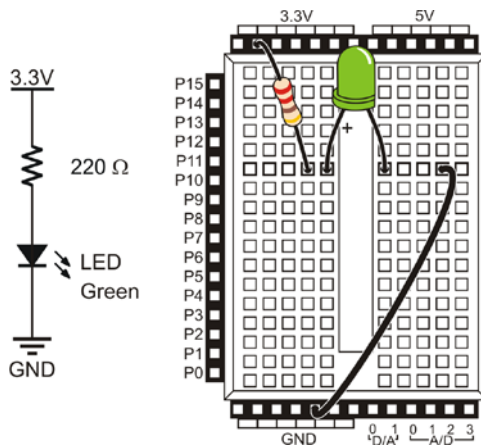

Figure 2-6
The left side of Figure 2-6 shows a *circuit schematic*, a drawing that uses symbols and lines to show how electrical components need to be connected together. On the right is a *wiring diagram*, which is a drawing of how that circuit might look when it is built on the prototyping area.
Follow the checklist below to build the circuit shown in Figure 2-6:
- ❑ Double-check that two leads that need to be connected together are actually in the same 5-socket row, as shown in Figure 2-6.